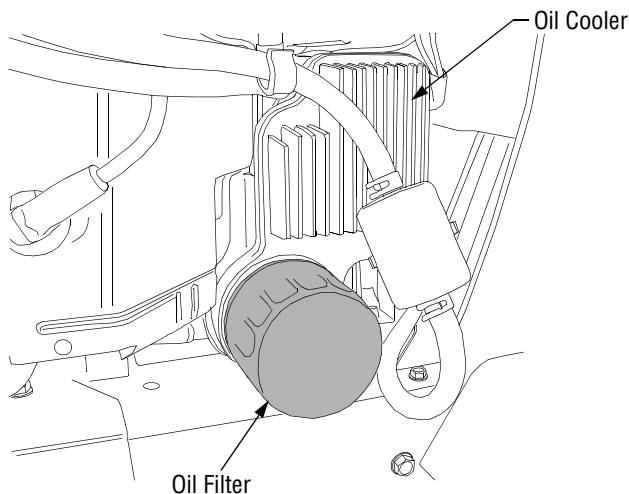

Figure 17
- Grasp the oil filter and remove it from the oil cooler/filter adapter by turning it counterclockwise. See Figure 17.
Inspect and clean the oil cooler every 25 hours of operation. The oil cooler must be kept free of debris. Clean off the outside cooling fins with a brush or with compressed air. Refer to Figure 17.